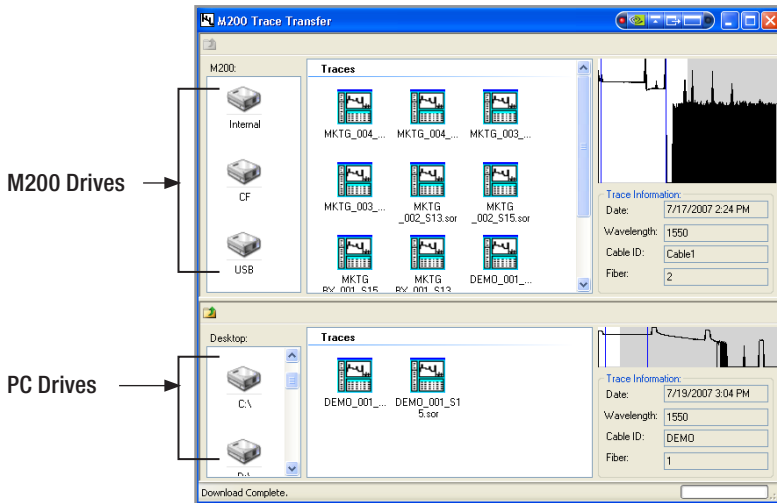

Figure 3-1: M200 Trace File Transfer
3. From the Trace.net File menu, select [M200 Trace File Transfer] to open the [M200 Trace Transfer] window (see Figure 3-1).
The table below and Figure 3-1 describe the [Transfer Files to OFL 200] dialog box features.
5. From the Trace.Net [File] menu, select the [OFL 200 Trace File Transfer] command to display the [Transfer Files From OFL 200] dialog box (see Figure 3-1).